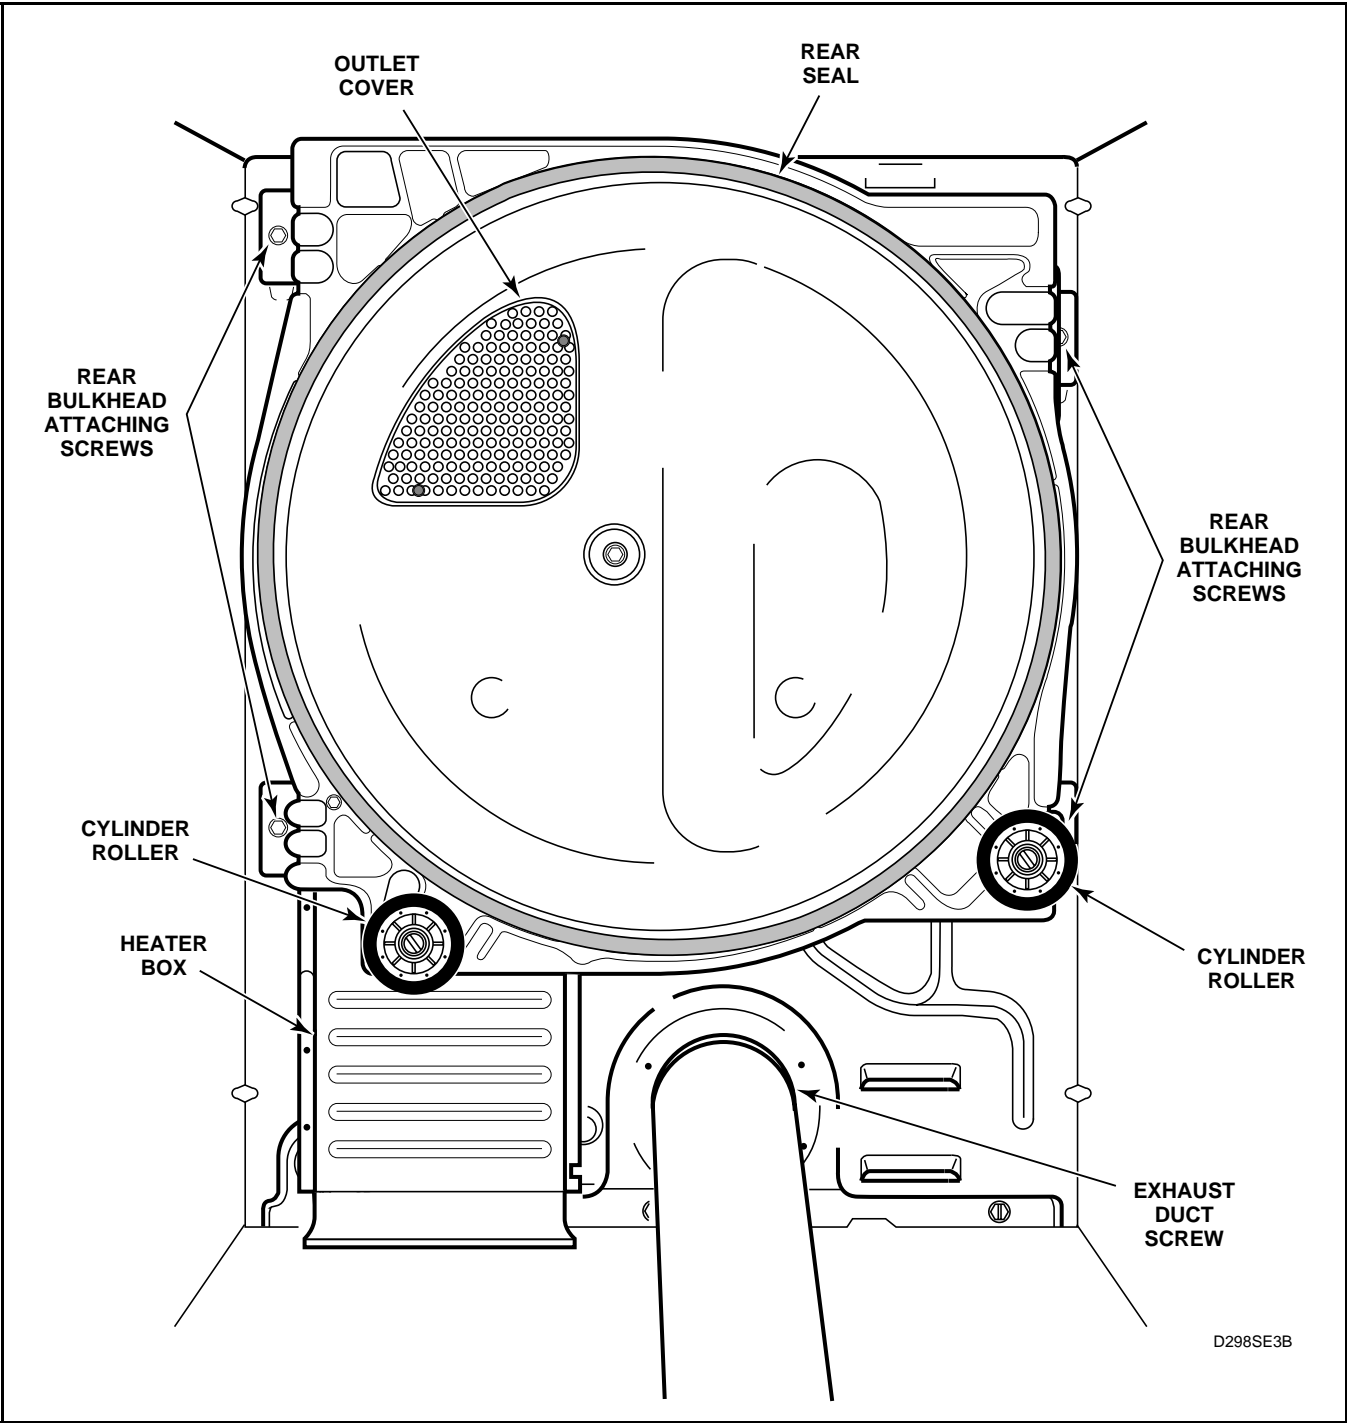

Figure 53
- j. Pull rear cylinder seal from flanged edge of bulkhead. See *Figure 53*.
- Open door and remove two screws holding outlet cover to rear bulkhead. See *Figure 53*.
- (4.) While supporting bulkhead, remove the four screws holding rear bulkhead to dryer cabinet, then lift complete assembly out of dryer. See *Figure 53*.